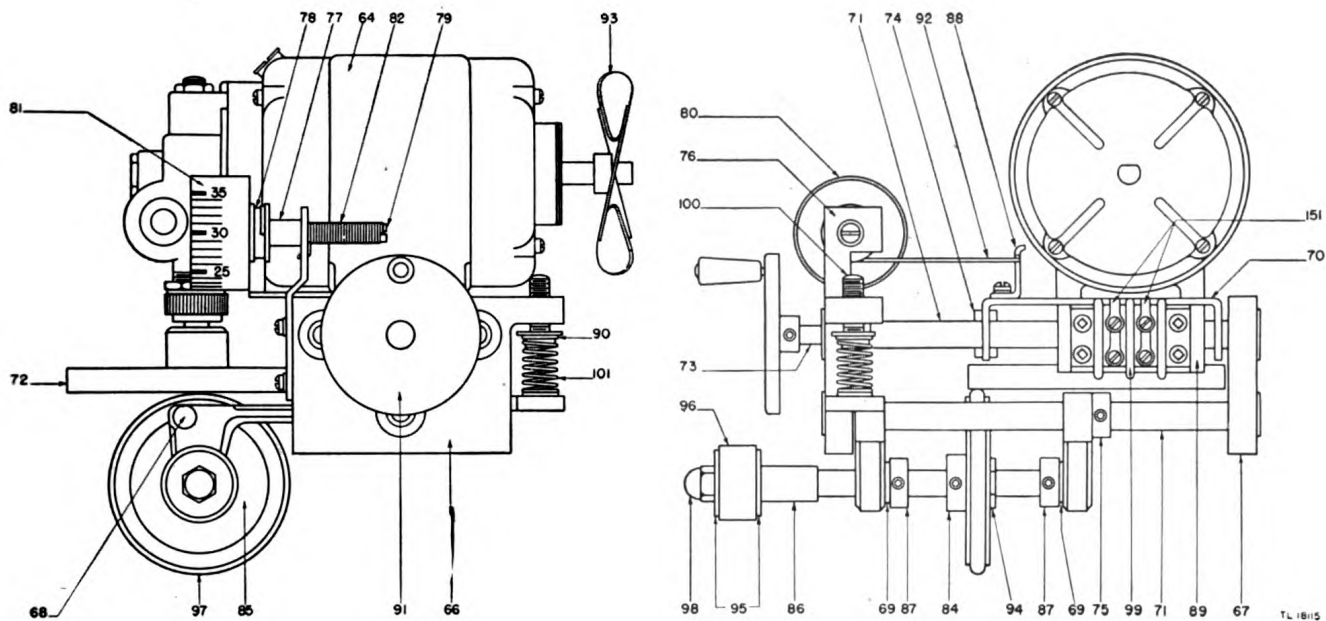

Figure 35. Motor drive assembly outline drawing.
35. Motor Drive Assembly (fig. 35)